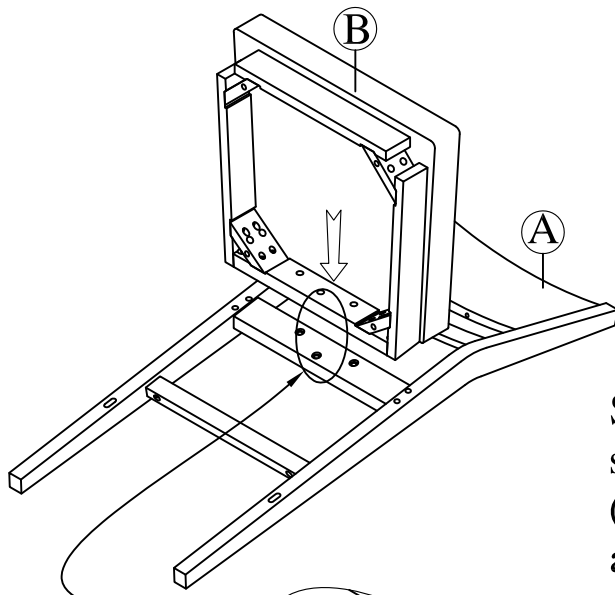

Fig.1
Step 1: Lay the Backrest (A) on a flat soft surface, use Short Bolt (3), Spring Washer (6), Flat Washer (7) and Allen Key (1) to attached the Cushion Seat (B) to Backrest (A) as shown in Fig. 1.